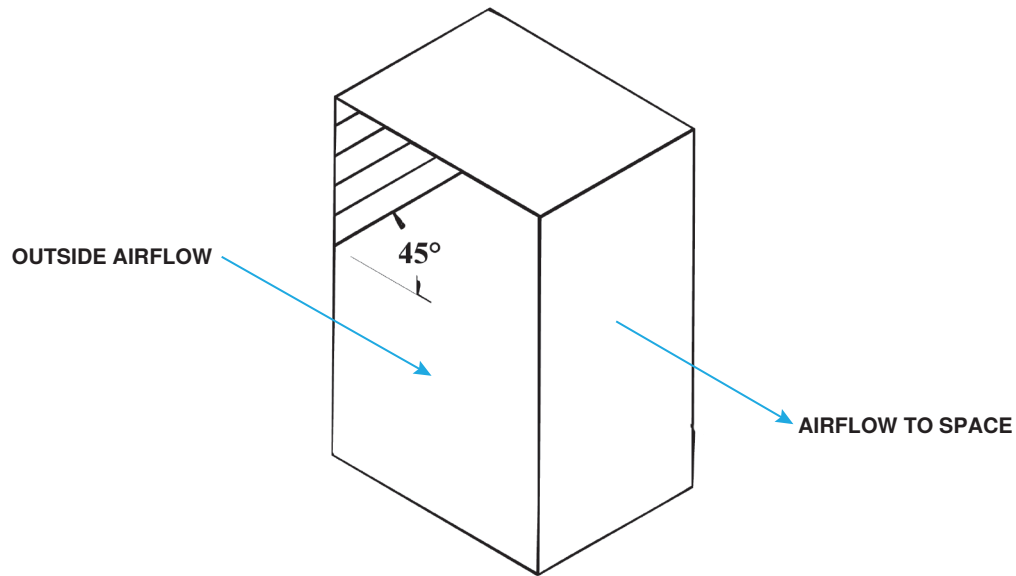

Figure 8. Airflow Direction Through Media Pads
3. Reverse procedure in step 1 to replace media pads. Media must be installed in orientation shown in Figure 8.